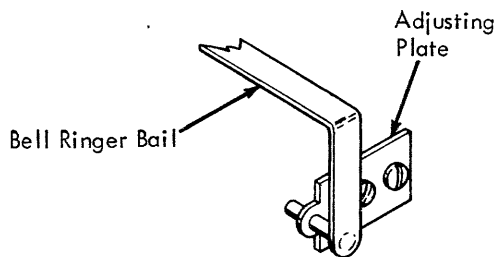

FIGURE 179. Bell-Ringer Bail Adjusting Plate
- 4. Bell Ringer Bail Adjusting Plate (New) (Fig. 179) - Position the adjusting plate so that the bellringer bail is parallel to the margin rack.